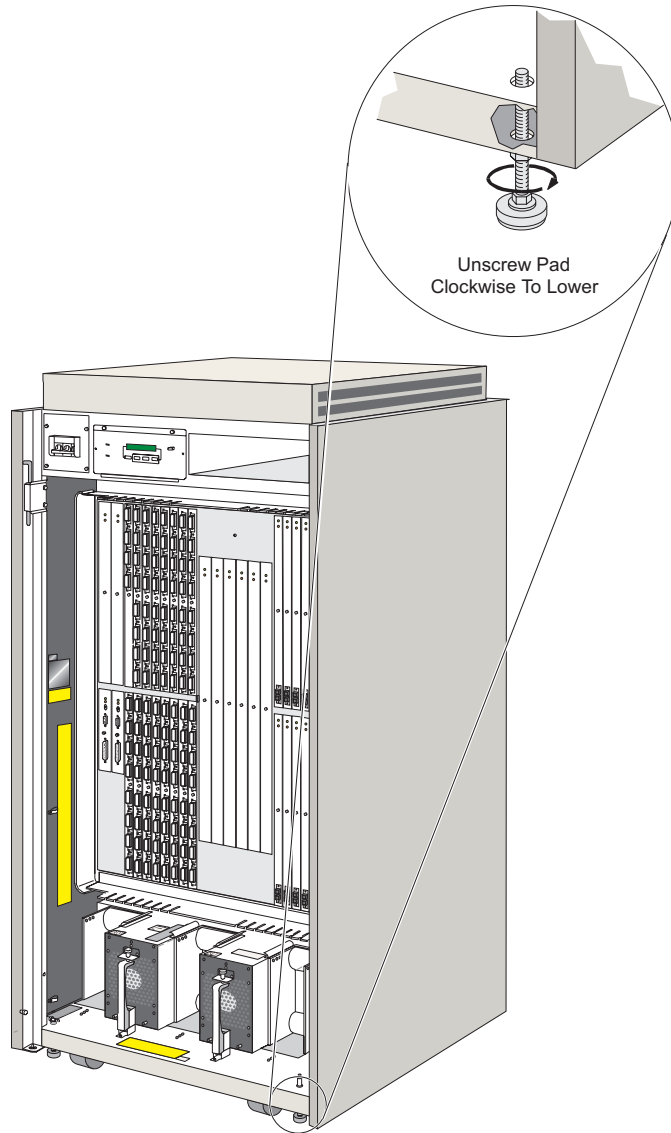

Figure 6-13. Positioning Leveling Pads Under Cabinet
5. Position the Director on the floor at the desired location. Leveling pads located beneath the Director stabilize the unit and keep it level on uneven flooring. Unscrew a leveling pad at each of the four corners by turning it clockwise until it is snug against the floor. Turn the nut above the pad with a 1/2-inch wrench if you cannot turn the pad with your fingers (refer to Figure 6-13).